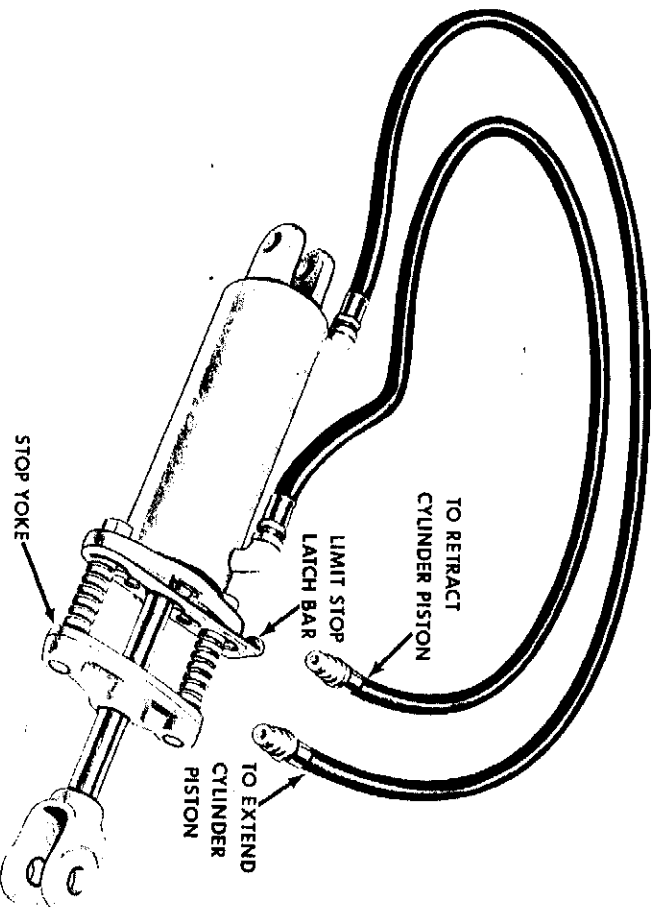

Figure 46
The Case remote cylinder is provided with an adjustable limit stop to control the length of the cylinder stroke, Figure 46.
**NOTE** In-as-much as oil flows in both directions at the coupler socket, it makes no difference which hose is attached to which socket. Some operators would prefer to push the hand lever (Figure 46) forward to extend the ram, others may want to pull it rearward